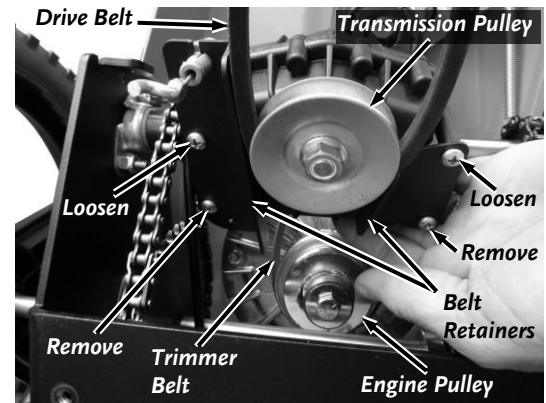

Figure 41
10. Continue to rotate the Transmission to gain access to the Belt retainers and Screws on the bottom of the Transmission (**Figure 41**).